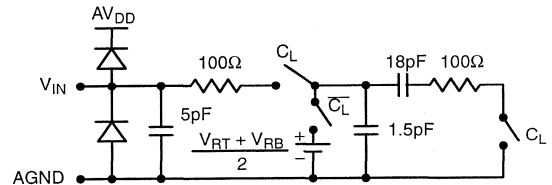

Figure 8. Equivalent Input Circuit
- 5 See V_{IN} equivalent circuit (Figure 8). Switched capacitor analog input requires driver with low output resistance.
This part has a switched capacitor type input circuit. This means that the input impedance changes with the phase of the input clock. The diagram *Figure 8* shows an equivalent input circuit.